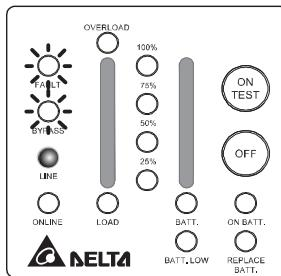

Figure 3-13 (O.T.P.)
- ✓ When the UPS inner components overheat, the UPS will protect itself by thermal switches. This status is so-called “**O.T.P**”. Show as Figure 3-13.